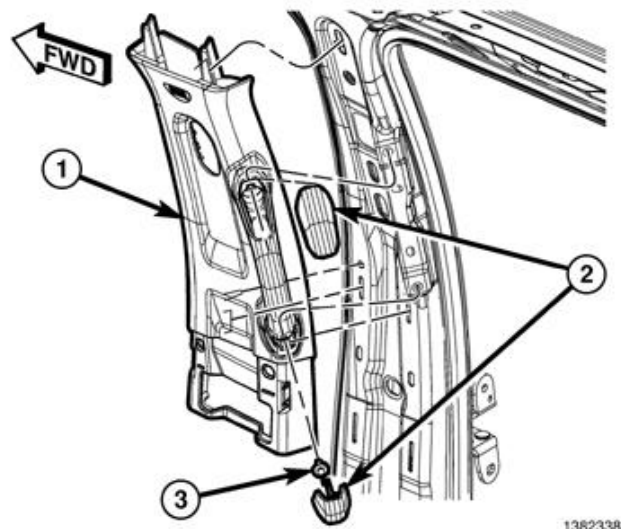

Figure 53 – B-Pillar Upper Trim Panel
20. Remove the two bolts (3) that secure the grab handle to the B-pillar (Figure 53).
21. Using a trim stick C-4755 or equivalent, release the retaining clips that secure the B-pillar upper trim panel (1) then position the trim panel out of the way. It is not necessary to remove the seat belt from the trim panel (Figure 53).
56. Install the B-pillar upper trim panel (1) and engage the retaining clips fully (Figure 53).
57. Install the grab handle bolts (3) and tighten to 5 N·m (44 in. lbs.). Close the fastener covers (2) (Figure 53).